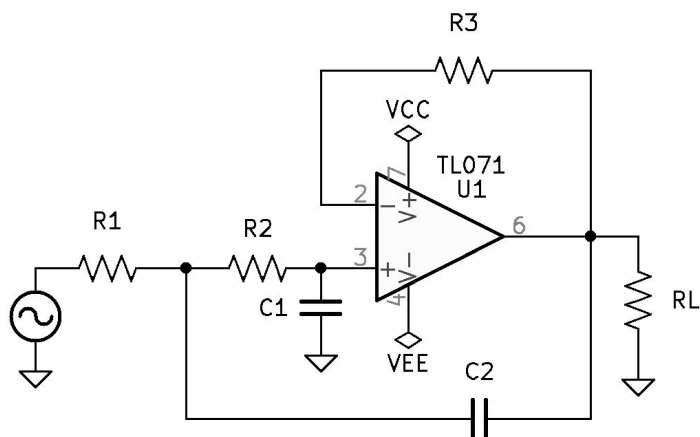

Figure 8.6: Low-Pass Second-Order Active Filtering Circuit.
1. See Figure 8.6 *Low-Pass Second-Order Active Filtering Circuit* on page 82.